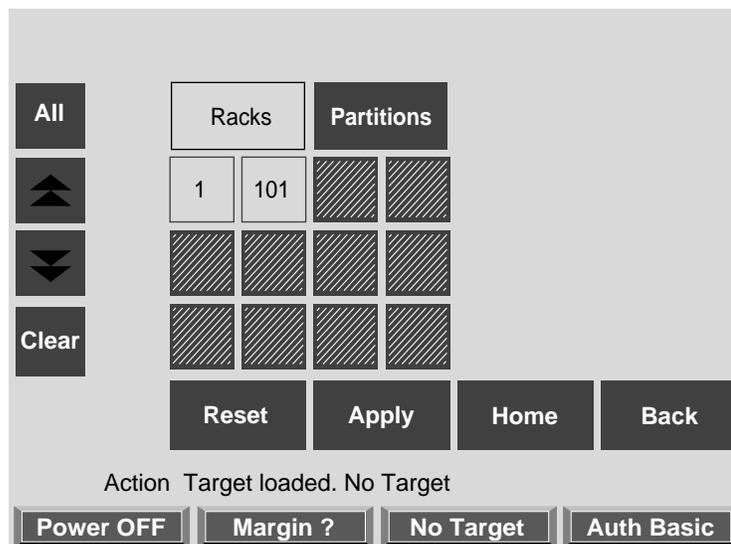

Figure 2-20 Target Select Window
2. Select **Set Tgt** from the window to select the bricks you want to power off. The Target Select window appears, as shown in Figure 2-20.